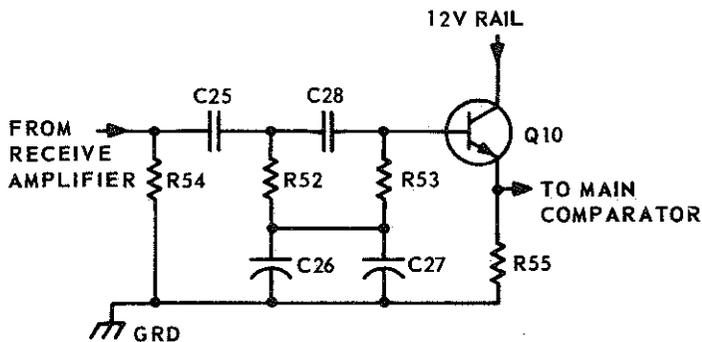

Fig. 14 – High Pass Filter Configuration
3.40 The high pass filter (consisting of Q10, C25, C28, C29, R52, R53, R54, R55) is a fourth-order high-pass positive feedback Butterworth-Thomson Filter (Fig. 14). Its purpose is to attenuate 60 Hz noise that may be on the telephone line connected to the unit, before such noise reaches the (-) input of the receiver-rectifier where it could affect the control circuit.